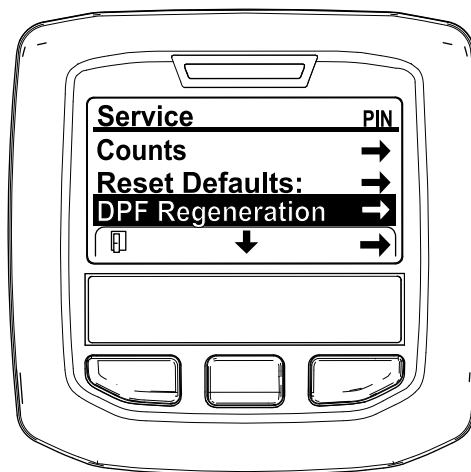

Figure 31
3. In the SERVICE MENU, press the middle button until the DPF REGENERATION options displays, and press the right button to select the DPF REGENERATION option (Figure 31).